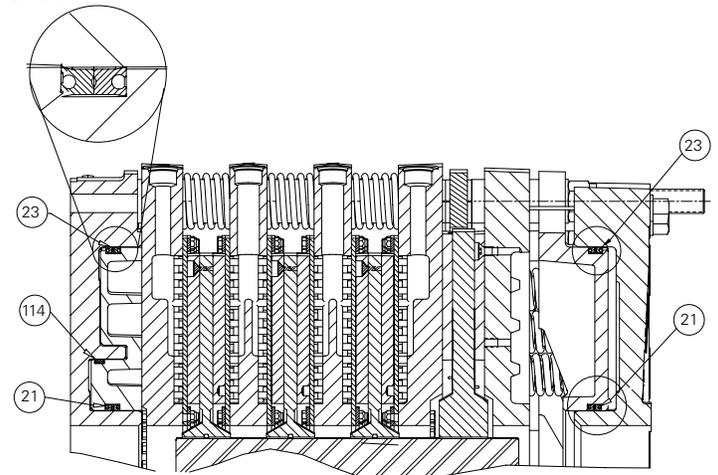

Figure 13
- 4.6.1.4 Insert new seals into the grooves, noting the orientation of the seals per Figure 13.
- 4.9.2 Lubricate the seals (21), (23) and (114) with Molykote O-ring lubricant, and install them into the seal grooves on the piston (33). Note the orientation of the seal lips, per Figure 13. Lubricate the seal surfaces in the mounting flange /cylinder (112) and evenly insert the piston into the mounting flange/cylinder.